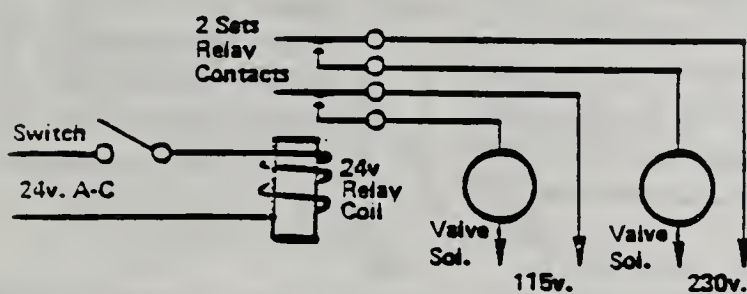

FIGURE 1-23C. Several independent power circuits may be simultaneously switched with relays.
**Figure 1-23C. Isolation.** Relays are not only used to isolate a coil circuit from a contact circuit, but may be used to isolate and switch loads of different characteristics. As illustrated here, two loads, one operating at 115 volts, the other at 230 volts are simultaneously switched with one relay. The relay may obtain its coil voltage from either of these two sources or from an entirely different source.